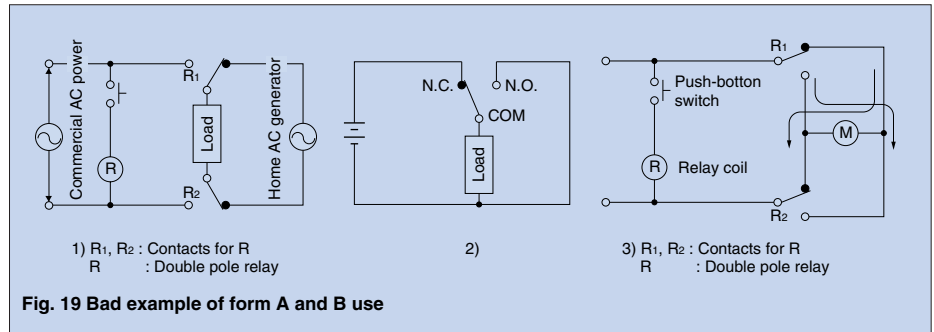

Fig. 19 Bad example of form A and B use
• Avoid Circuits Where Shorts Occur Between Form A and B Contacts (Fig. 19)